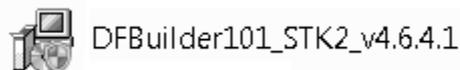

Figure 2.1.1 Icon of DebugFactory Builder for MN101_STK2
1. Double-click the icon of DebugFactory Builder for MN101_STK2 (DFBuilder101_STK2_v4.6.4.1.EXE) which has been downloaded, and start the DebugFactory Builder for MN101_STK2. (Refer to Figure 2.1.1.)